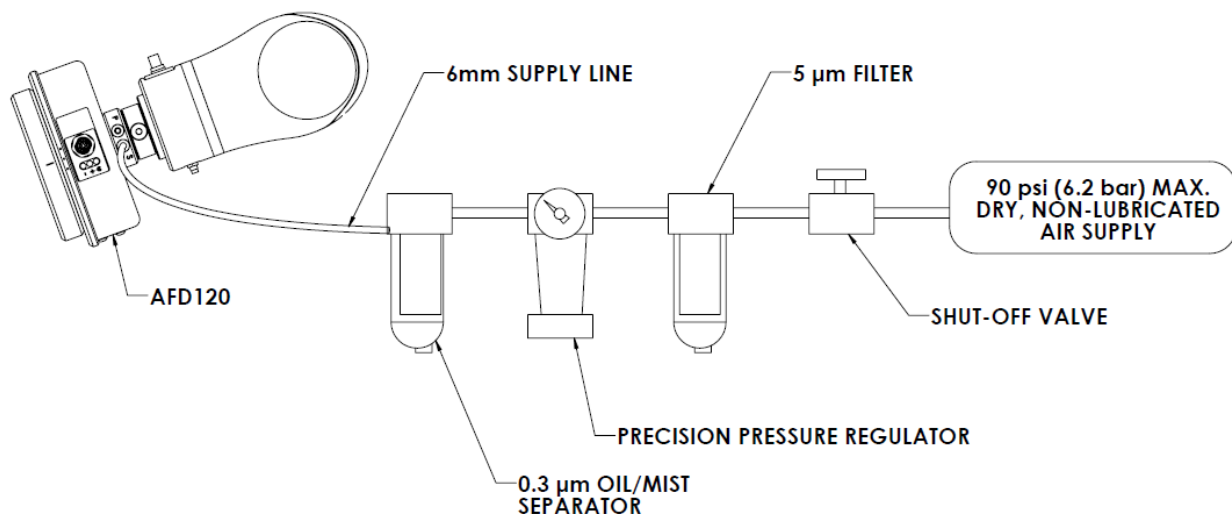

Figure 8: Pneumatic Configuration
-1 or -2 mounting flange is aligned and positioned into the mounting bracket such that the THRU holes are aligned. At that point, the M8x1.25 shoulder bolt should be inserted and threaded into the AFD120 mounting bracket to tighten the assembly as shown in Figure 8. This bolt should be torqued to 40N-m (30ft-lbs).
The pneumatic supply system should be configured as shown in Figure 8.